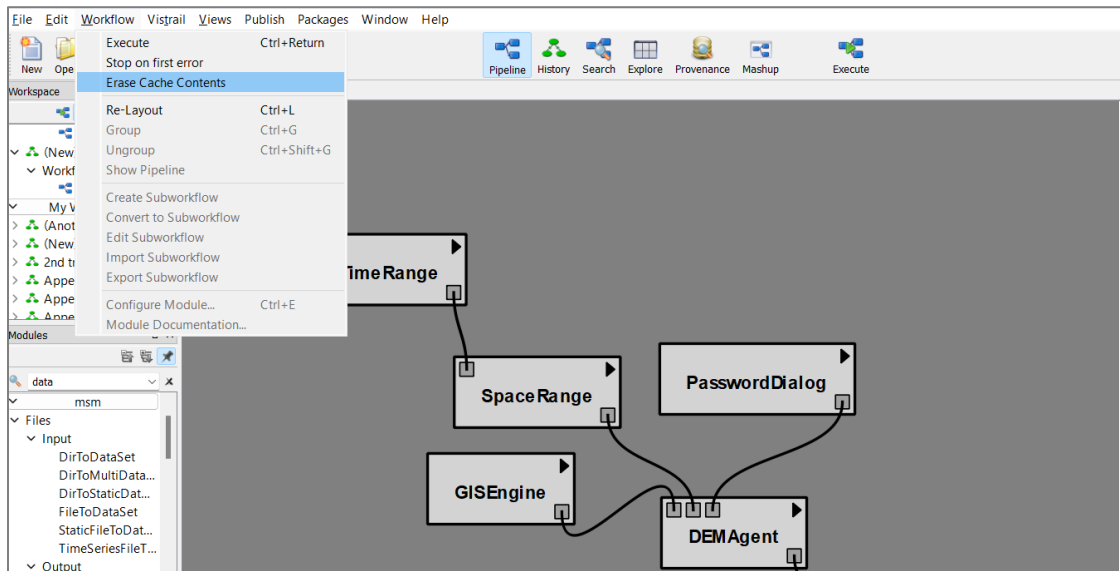

Figure 17. Screen shot showing how to clear the cache.
- To ensure that any changes you make to the workflow take effect, it's essential to clear the cache before re-executing the model. This is because the program prioritizes cached files, which can prevent new updates from being applied. You can easily clear the cache from the workflow menu shown in Figure 17.